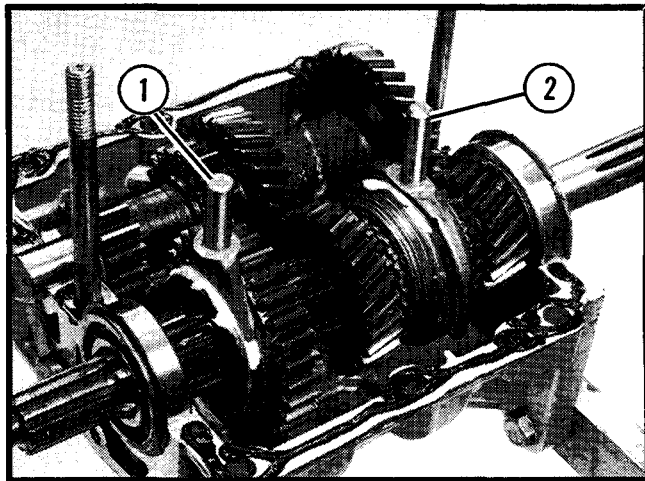

Figure 13.
6. Place the shifter forks onto the gears. See Figure 13. Place assembly grease on the shifter forks to help position them while assembling the second half of the transmission.